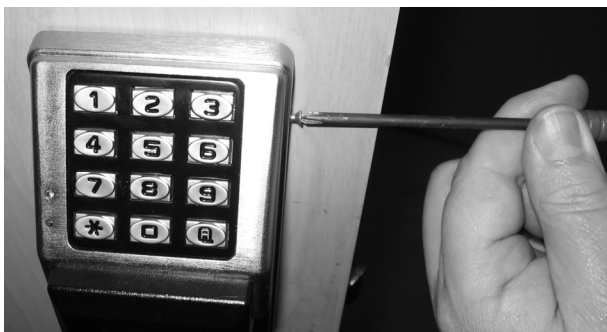

FIG. 17: SECURE THE TOP OF THE SECONDARY HOUSING
7. Secure the top of the Secondary housing to the Secondary mounting plate by inserting the two trim 4-40 flathead Phillips head screws. See Fig. 17.